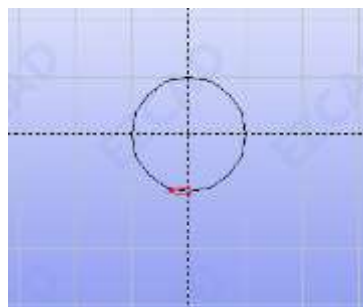

Fig 2-5 Show curve direction
**Show direction:** Displays the curve laser marking path. As shown in Figure 2-5, the machining direction will be displayed on the object to be marked.